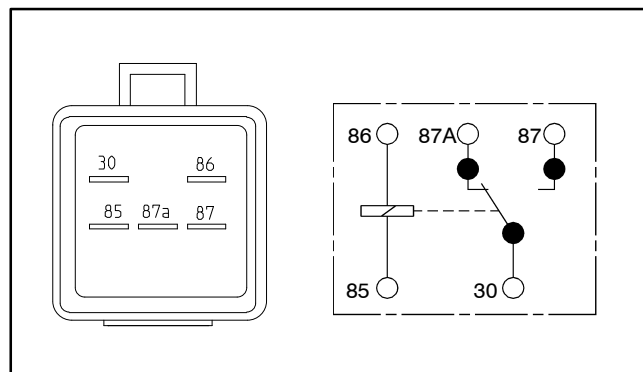

Figure 27
5. Using a multimeter (ohms setting), measure coil resistance between terminals 85 and 86 (Fig. 27). Resistance should be between **70 and 90 ohms**.
6. Connect multimeter (ohms setting) leads to relay terminals 30 and 87 (Fig. 27). Ground terminal 86 and apply +12 VDC to terminal 85. The relay should make and break continuity between terminals 30 and 87 as +12 VDC is applied and removed from terminal 85.